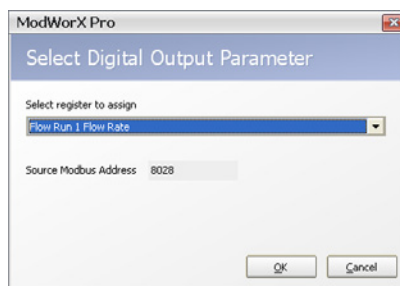

Figure 7.16
- Select the parameter to be assigned to the digital output. Click **Select** to view the options. A Select Digital Output Parameter window will appear (Figure 7.16). Click on the dropdown arrow to view all available parameters. Click on the parameter of your choice, and click **OK** to save the selection and return to the Configure Digital Outputs screen.